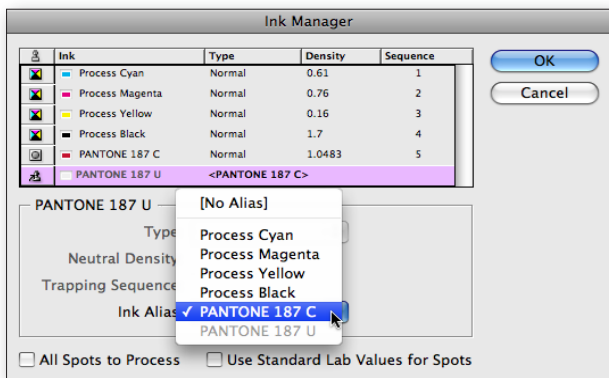

Figure 7: Ink Manager showing dialog, and mapping one spot color to another.
- 1 Open the Ink Manager from the Swatches or Separations Preview panel menu, or from the Output pane of either the Export Adobe PDF or Print dialogs (Figure 7).